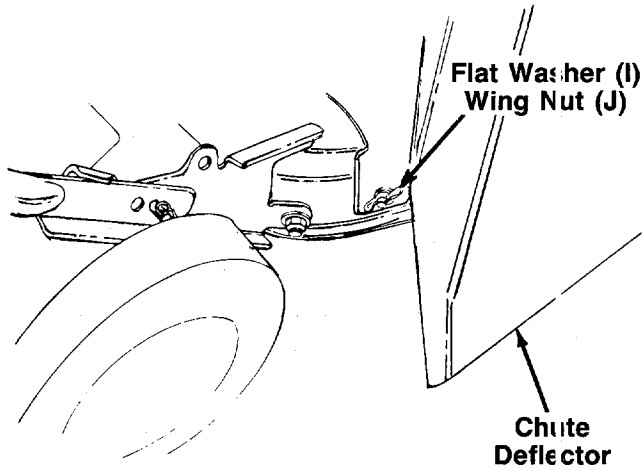

FIGURE 13.
- Secure the back of the deflector in the same manner. See figure 13.